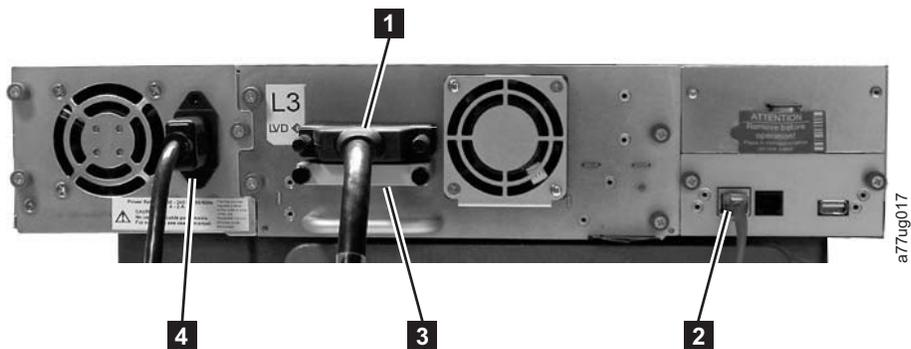
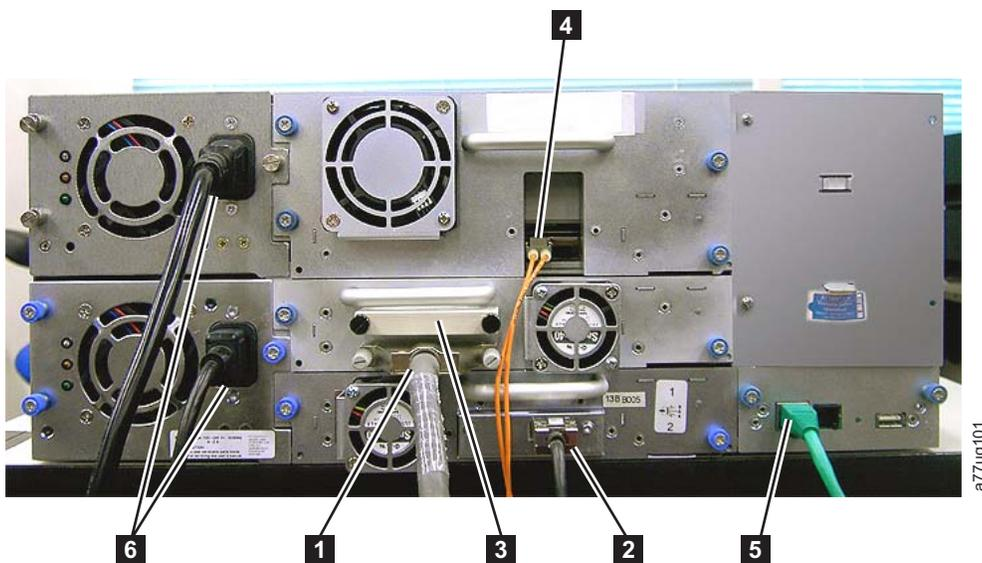
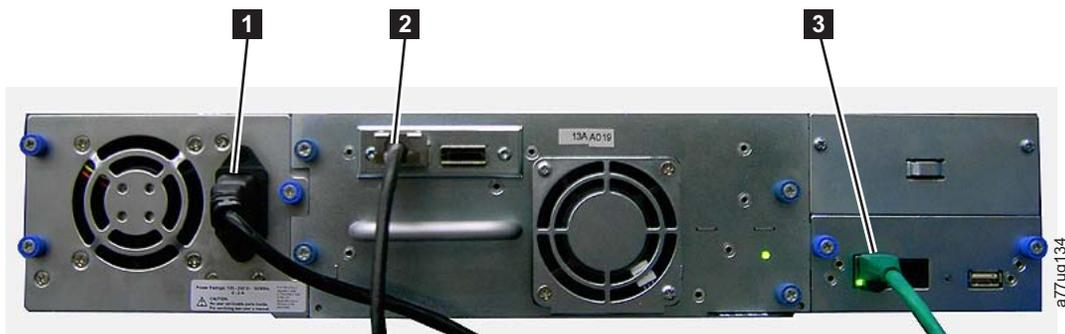

Figure 4-17. Attaching a SCSI host interface cable to the 2U library
Figure 4-18. Attaching host interface cables to the 4U library.
Figure 4-19. Attaching a SAS interface cable to the 2U library
2. For a SCSI library, attach one end of the host interface cable to one of the connectors on the back panel of the library (see **1** in Figure 4-17 on page 4-15). For a Fibre Channel library, attach one end of the host interface cable to the connector on the back panel of the library (see **4** in Figure 4-18 on page 4-15). For a Serial Attached SCSI (SAS) connected library, attach the host end of the SAS cable to the SAS HBA (see **2** in Figure 4-19 on page 4-15). Full high drives have dual SAS connectors. Half high drives have one SAS connector.
- For a SCSI library, connect the host interface cable to the connector on the SCSI host bus adapter or to the connector on the previous device on the SCSI bus. Attach the terminator (**3** in Figure 4-17) to the remaining SCSI connector on the back panel of the library, if the library is the last or only
**Note:** The host bus adapter must be LVD SCSI. A single-ended (SE) SCSI host bus adapter works, but severely degrades performance, and limit cable length. If there are any SE devices on the same SCSI bus, the entire SCSI bus negotiates down to SE speed and severely degrade performance.
4. Plug the network ethernet cable ( **2** in Figure 4-17 on page 4-15, **5** in Figure 4-18 on page 4-15, or **3** in Figure 4-19 on page 4-15) into the ethernet port on the back panel of the library. If the ethernet connection is directly attached to a server or laptop, a crossover ethernet cable might be required.